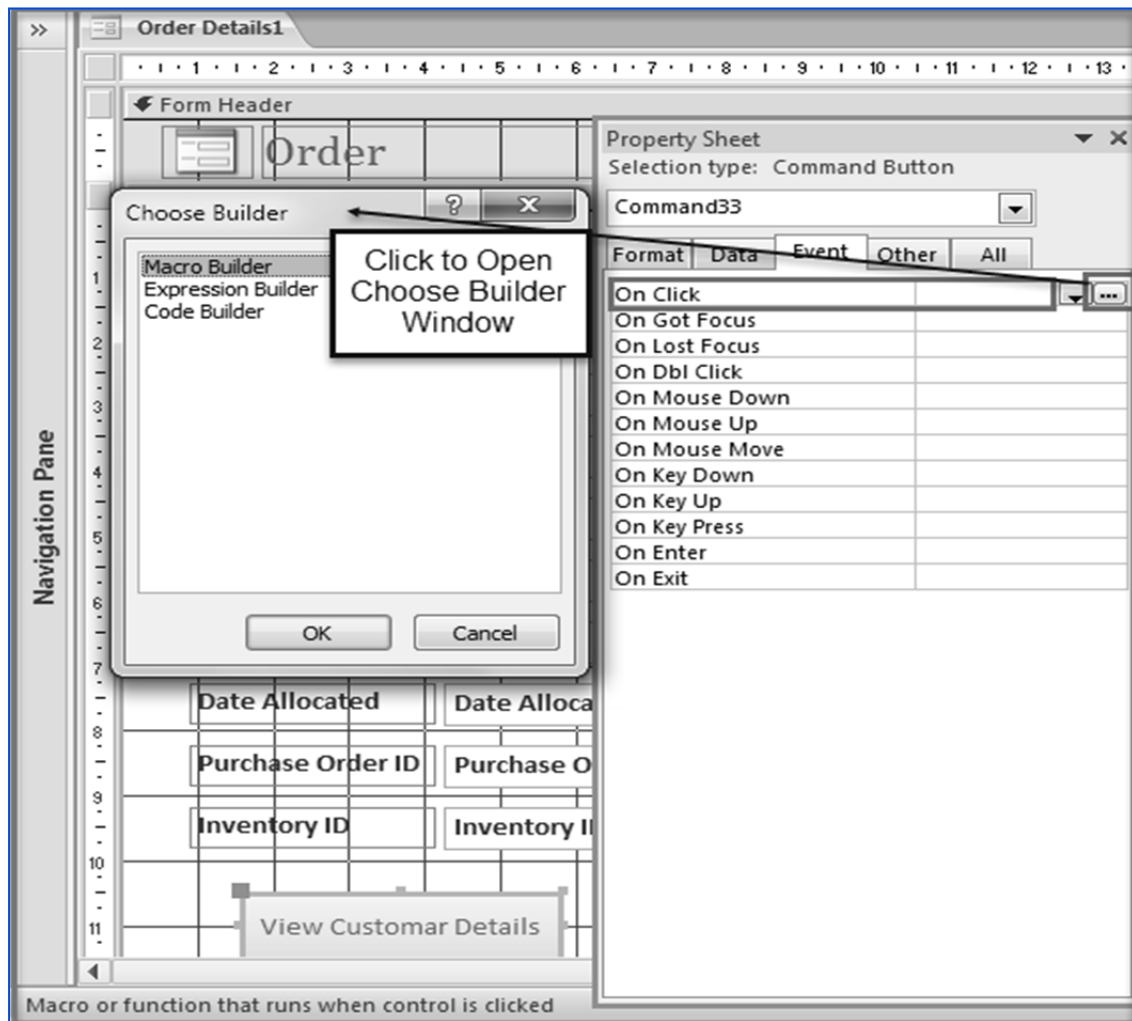

Fig. 4.2.22: Open the Choose Builder window
4. In the *Event* tab of *Property Sheet*, set the value of the *On Click* event. To do this, click  next to the *On Click* property. The *Choose Builder* window appears, as shown in Fig. 4.2.22.